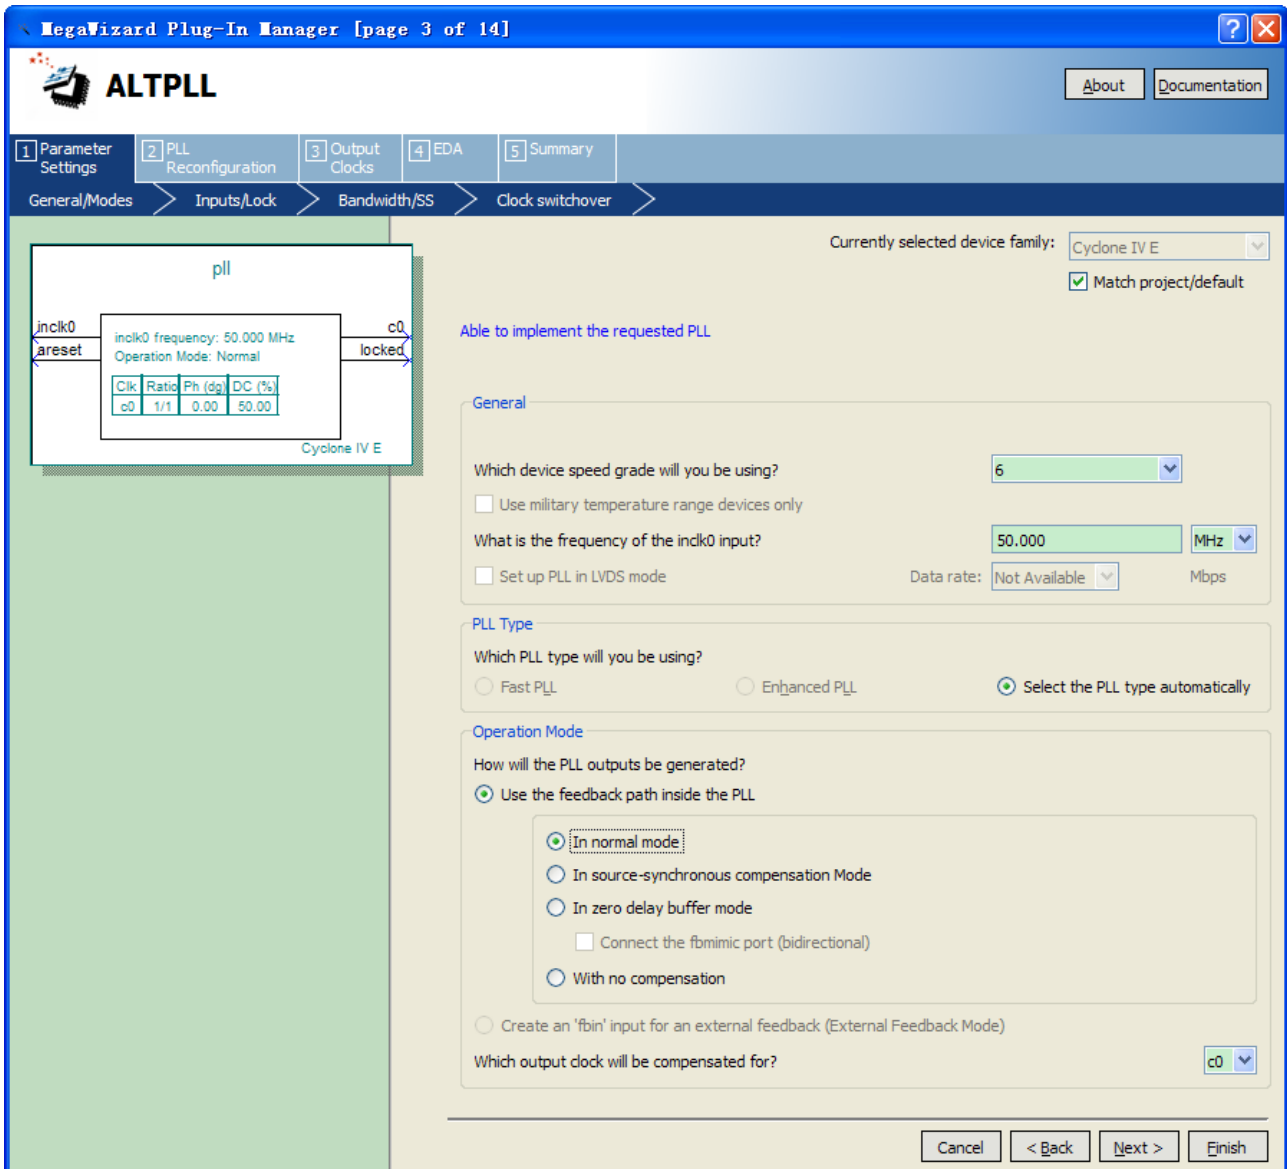

Figure 6-21 MegaWizard Plug-In Manager [page 3 of 14] Selections
5. In the MegaWizard Plug-In Manager [page 3 of 14] window, make the following selections (see Figure 6-21).